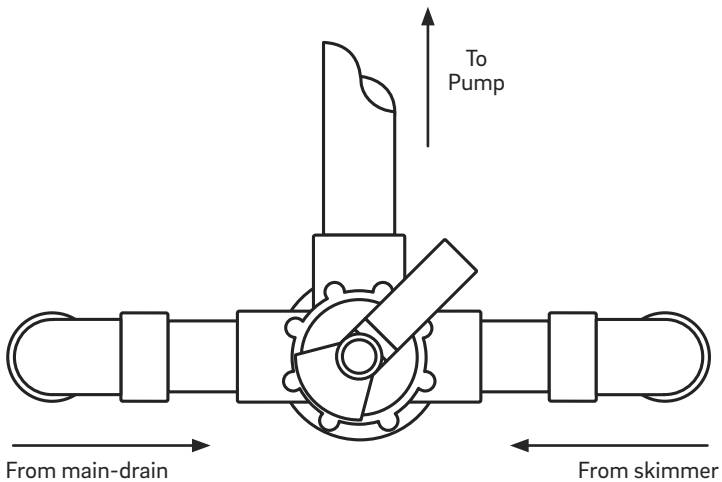

Figure 12
When the QuikSkim or QuikSkim Ultra is in suction operation, the water entering the pump should be diverted to allow about of the suction from the main-drain and remaining suction from the skimmer (Figure 12). This arrangement will result in the pump pulling majority of the water from the skimmer, and a little from the main-drain.
3. Place the skimmer into Suction Operation (Figure 12), then add the DE where the basket normally sits.